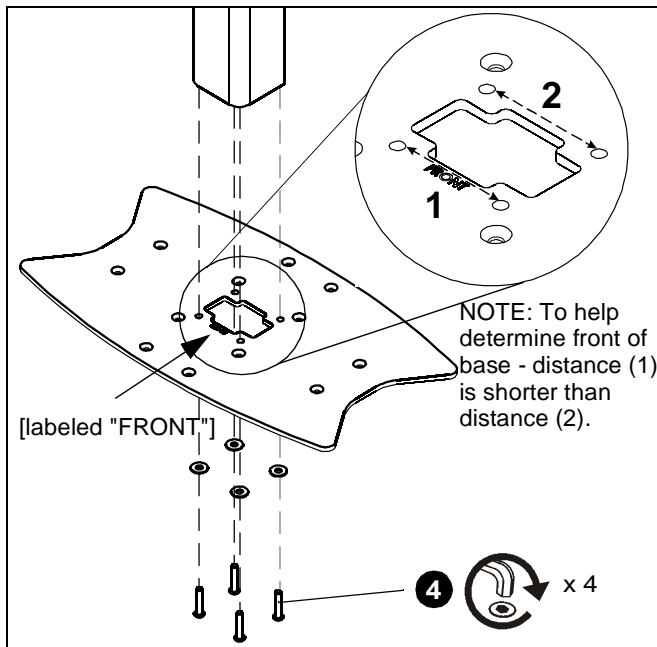

Figure 9
4. Attach base section to the center post using four 16-18 x 1-1/2" button head cap screws and four 5/16" flat washers removed in removed in Step 1 of **Removing Column from Cart or Stand** section. (See Figure 9)
NOTE: Ensure that center post front is placed to the front of base section. Check for "FRONT" on base section. (See Figure 9)